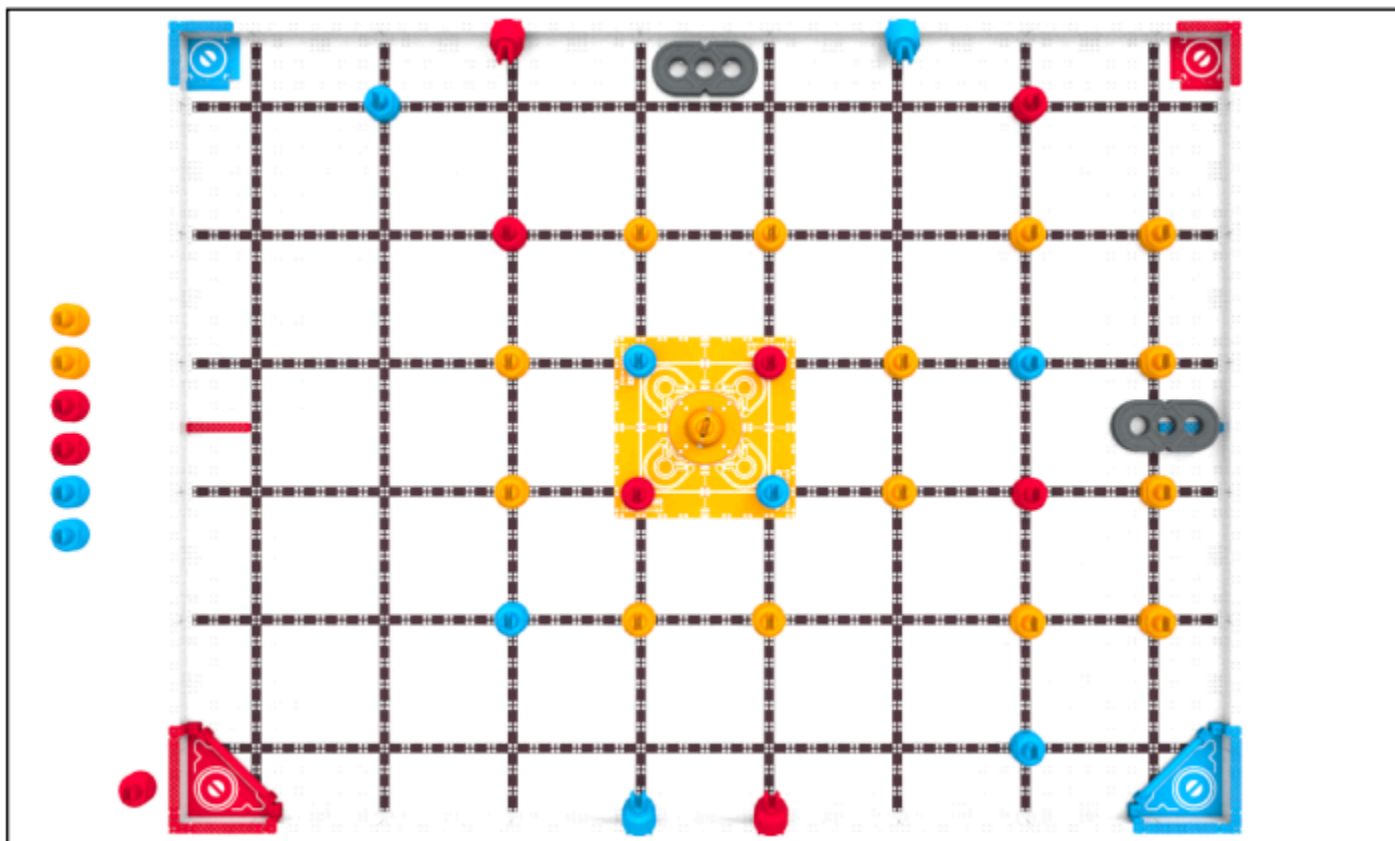

Figure RSC3-1: The Field Configuration for a VIQRC Mix and Match Robot Skills Match.
- a. The layout of *Scoring Objects* for a *Mix & Match Robot Skills Match* differs from the layout for *Teamwork Challenge Matches*, as shown in Figure RSC3-1.